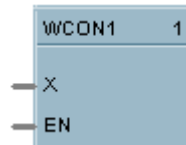

**Figure 92 VLIM function block example**
Figure 92 shows a VLIM function block that limits the increasing or decreasing rate at which the output can change based on user specified limits when the Enable input is ON (1).